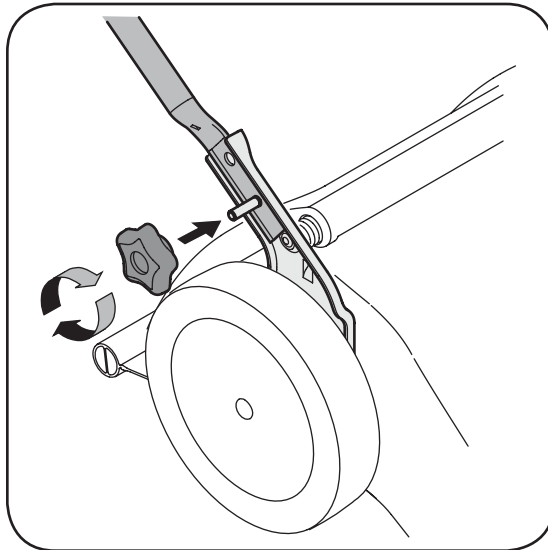

Figure 4-2
2. Tighten star knobs securing lower handle to handle brackets. See Figure 4-2. Make certain the lower handle is seated securely into the handle mounting brackets.
Plug the battery charger into the mower first, and then into any standard 110/120 volt household electrical outlet. See Figure 4-2 for battery charging location on mower.